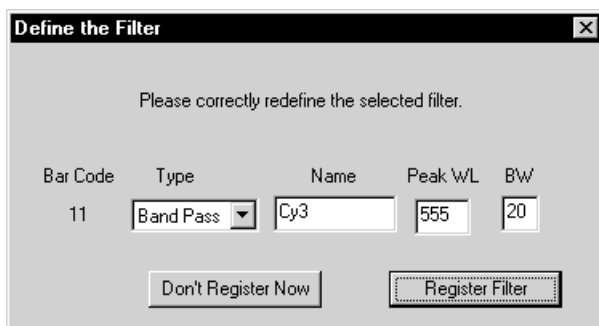

Fig 13-4. The Define the Filter window.
- 3 To display the Define the Filter window, right-click the selected emission filter in the Emission Filter list. The Define the Filter window appears and displays the current definition of the filter you selected in step 2 (fig 13-4).